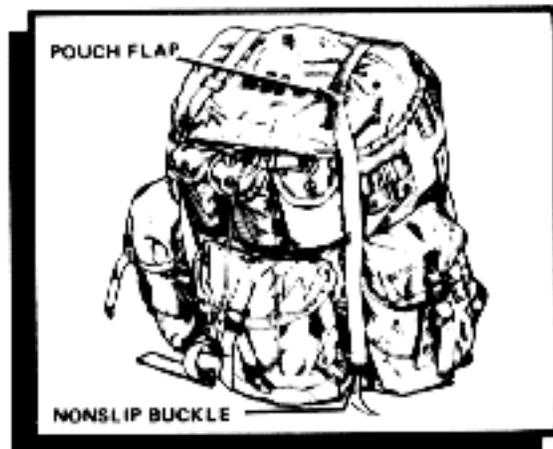

Figure 4-32. Pouch flap.
**Pouch Flap.** Insert the pouch flap tiedown strap (figure 4-32) through the web loop on top of the pouch flap, down over the pouch flap, and into the bottom nonslip buckle. Pull tight.